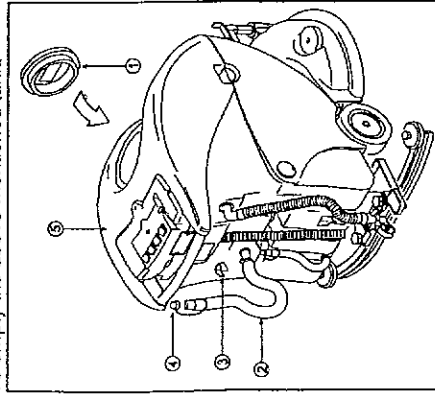

Fig. 13
- take off the tank cap (fig. 13, ref. 1) from the recovery tank (fig. 13, ref. 5);
- detach the drain hose (fig. 13, ref. 2) from its seat, holding it in correspondence with the fixing spring (fig. 13, ref. 3) and pull it horizontally;
- keeping the hose end as much high as possible, take off the drain cock (fig. 13, ref. 4);
- put back the cap (fig. 13, ref. 1) on the recovery tank, making sure that it is perfectly closed;
- close the drain hose (fig. 13, ref. 2) with the cock (fig. 13, ref. 4) and put it back in its seat.